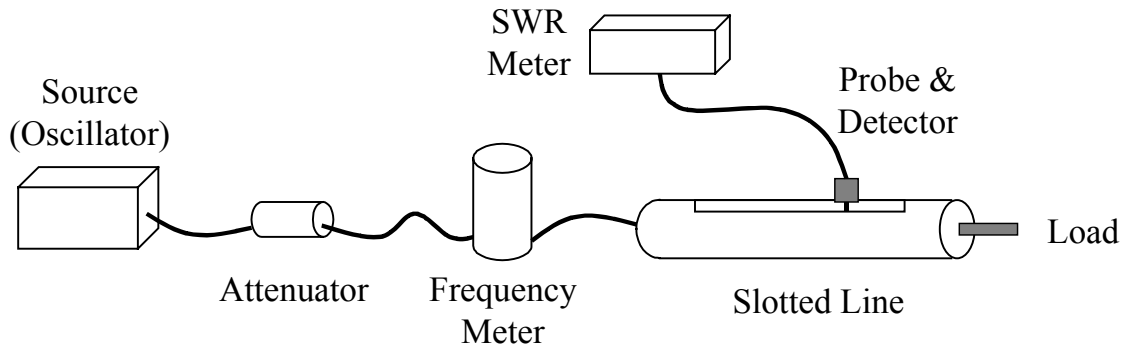

Figure 2: Setup for standing wave pattern measurement.
2.0 EQUIPMENT Setup is shown in Figures 2.
- Ensure the setup is as shown in Figure 2. Sketch the lab setup for reference.